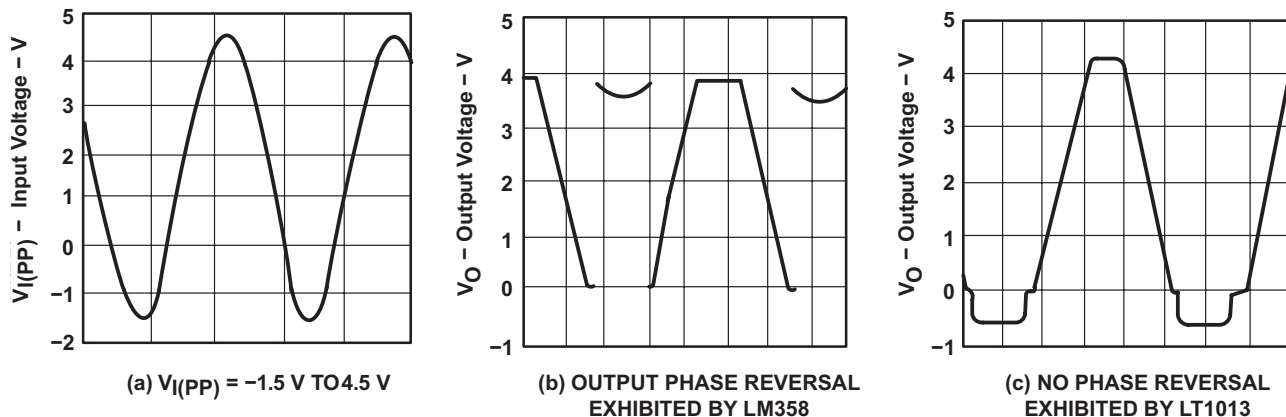

Figure 24. Voltage-Follower Response With Input Exceeding the Negative Common-Mode Input Voltage Range
2. When the input is more than 400 mV below ground (at $T_A = 25^\circ\text{C}$), the input stage of similar operational amplifiers saturates, and phase reversal occurs at the output. This can cause lockup in servo systems. Because of unique phase-reversal protection circuitry (Q21, Q22, Q27, and Q28), the LT1013x outputs do not reverse, even when the inputs are at -1.5 V (see Figure 24).